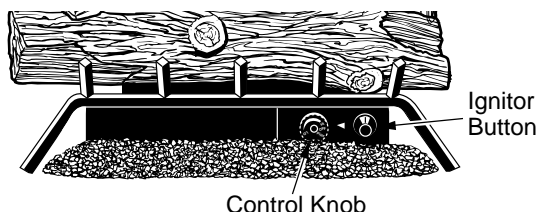

Figure 25 - Control Knob and Ignitor Button Location
4. Wait five (5) minutes to clear out any gas. Then smell for gas, including near the floor. If you smell gas, STOP! Follow "B" in the safety information in column 2, page 16. If you don't smell gas, go to the next step.
5. Turn control knob counterclockwise  to the PILOT position. Press in control knob for five (5) seconds (see Figure 25).